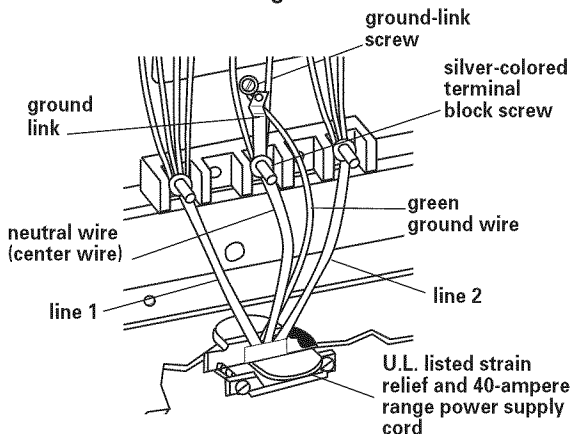

Figure 5
8. Connect the green ground wire from power supply cord to the range using the ground-link screw. **The ground wire must be attached first and must not contact any other terminal.** See Figure 5.
9. Connect the neutral wire (center wire) to the center, silver-colored terminal screw on the terminal block using the brass terminal nuts that are attached to the inside of the terminal block cover. See Figure 5.
10. Connect the other two wires to the outer terminals on the terminal block. See Figure 5.